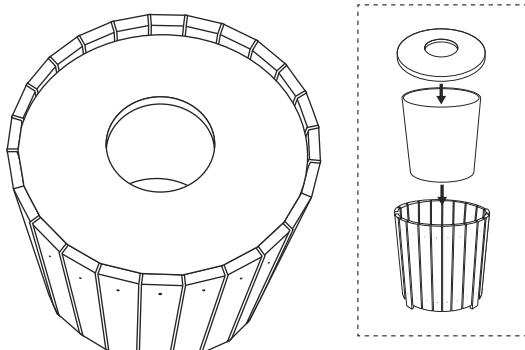

Figure 5
- Place the rigid liner inside the can and place the plastic lid on top. (See Figure 5)